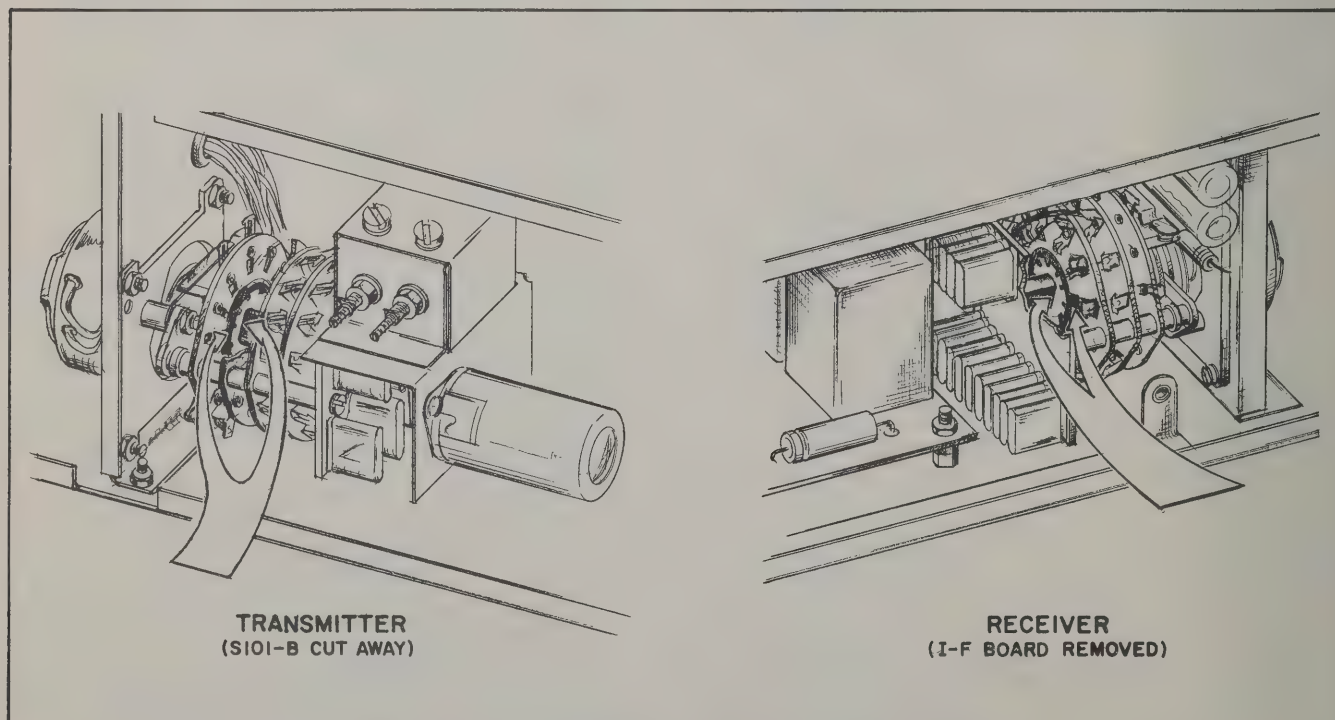

Figure 2-12. Orientation for KC Selector Switch Position 1
4. Rotary solenoids may be hand stepped by rotating back plate to detent limit to step switch one position. Orientation for position 1 is shown in Figure 2-12. Position 2 is next clockwise detent "click", position 3 is next clockwise detent "click", etc.